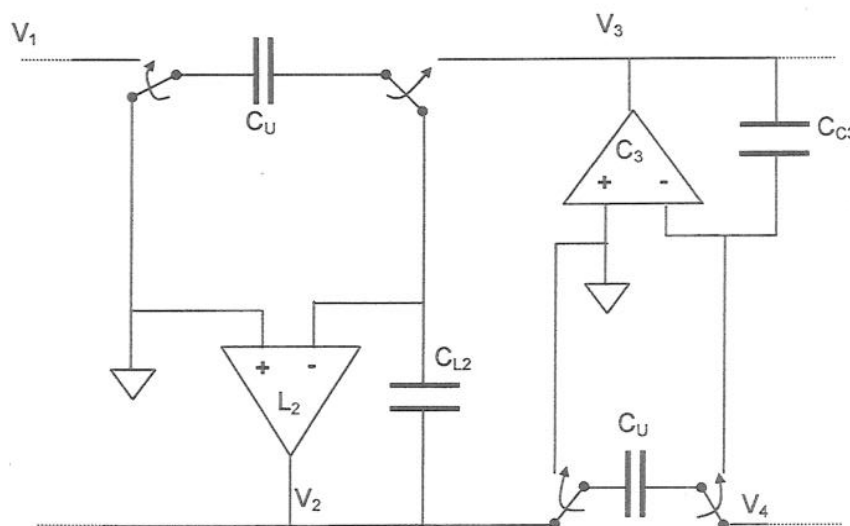

Figure 5.1
- (b) Figure 5.1 shows one section of a switched capacitor ladder filter. Based on this filter structure, design a 3rd-order Chebyshev low-pass filter with a cut-off frequency of 5 kHz and a 1.0 dB pass band ripple. Assume a clock frequency of 100 kHz. Passive component values for the LC prototype, normalised to 1 rad/s, are $C_1 = C_3 = 2.0236$, $L_2 = 0.994$. In your analysis assume all integrators to be lossless.